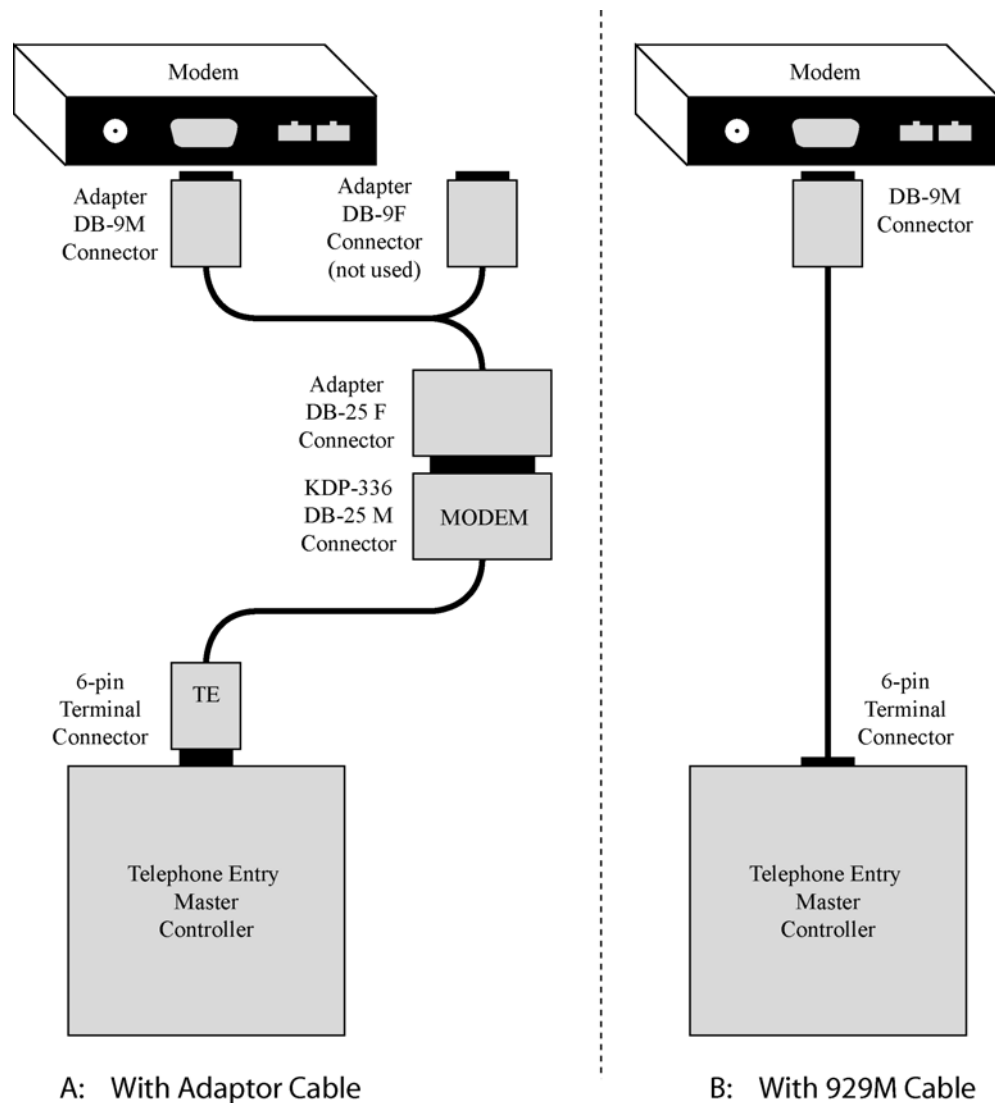

Figure 20: Modem Cable Connection
- If the modem was purchased from Keri Systems, it comes with an adapter that accommodates a female DB-9 connector (should the modem have a DB-9 instead of a DB-25 connector). Use this adapter cable in conjunction with a KDP-336 cable to make the modem/controller connection. See Figure 20 on page 18.
- An adapter cable is provided, when needed, with a modem purchased from Keri Systems. Connect the adapter cable between the modem and the KDP-336 cable as shown in side A of Figure 20.
- To use the KDP-929M cable see side B of Figure 20.